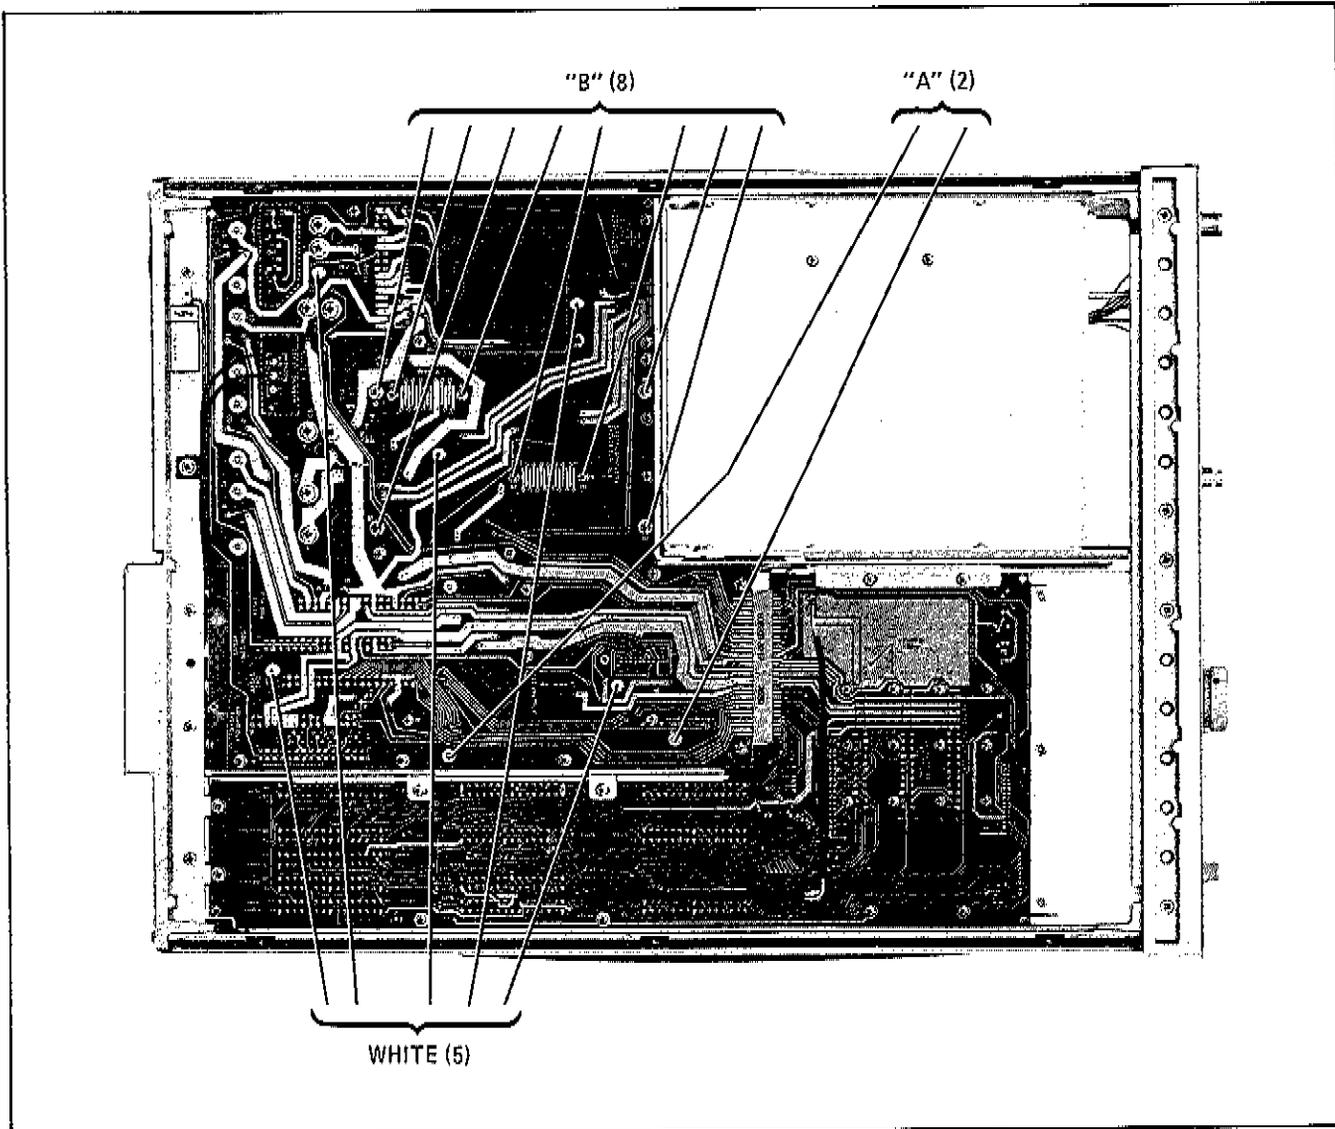

Figure 8-4. Bottom of the Synthesizer
c. Remove the clear plastic protective cover from the bottom of the Synthesizer by removing the five white circled screws (see Figure 8-4).
- d. Remove the two Pozidriv screws labeled A from the bottom of the A3A9 Assembly through the Mother Board (see Figure 8-4).